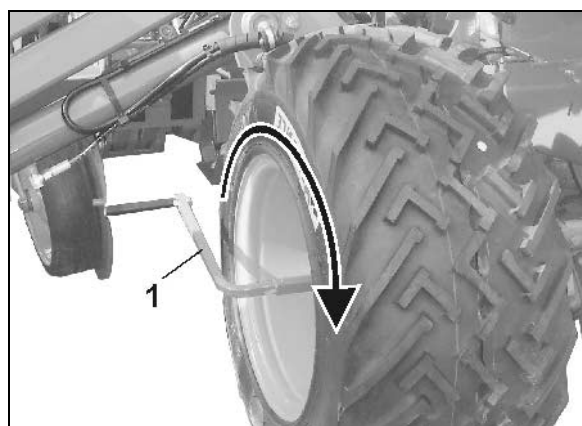

Fig. 52
6. Insert the calibration crank into the shaft (Fig. 52/1) on the right hand drive wheel